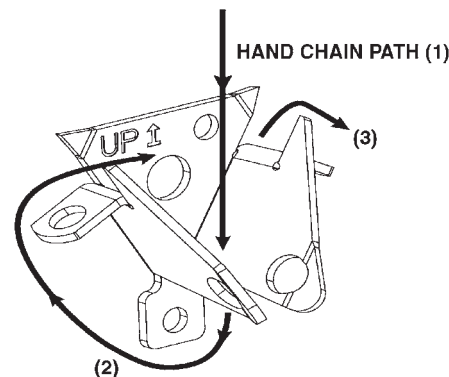

Fig 24
- Attach to wall or door guide assembly. Instruct door users to wrap hand chain as shown in Figure 24.